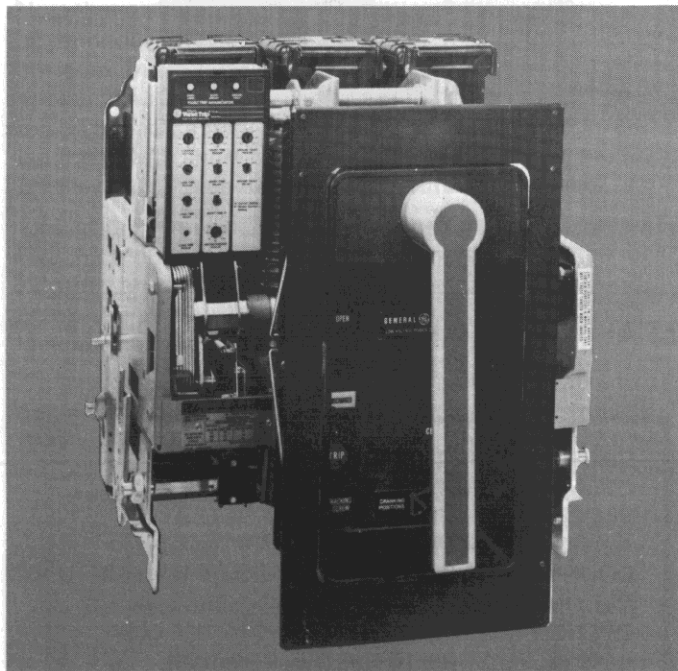

Fig. 3-13. AKR-30 circuit breaker (manually operated)
A. AKR-6D-30 Circuit Breaker (Figs. 3-13 and 3-14)